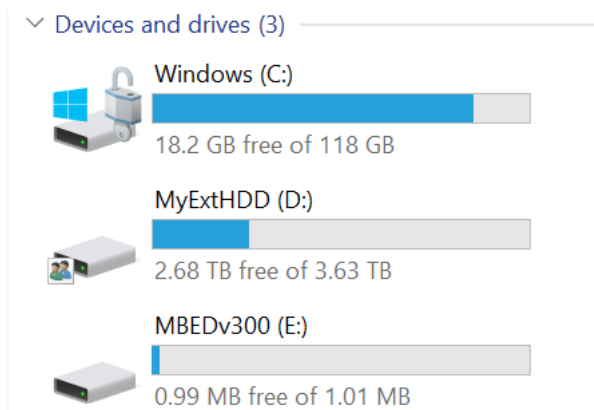

Figure 7: The programmer board displays as a flash drive
- The programmer board now appears as a flash drive on your PC (labeled as MBEDvXXX); **XXX** is the QPK-NRF5X firmware version number (Figure 7).